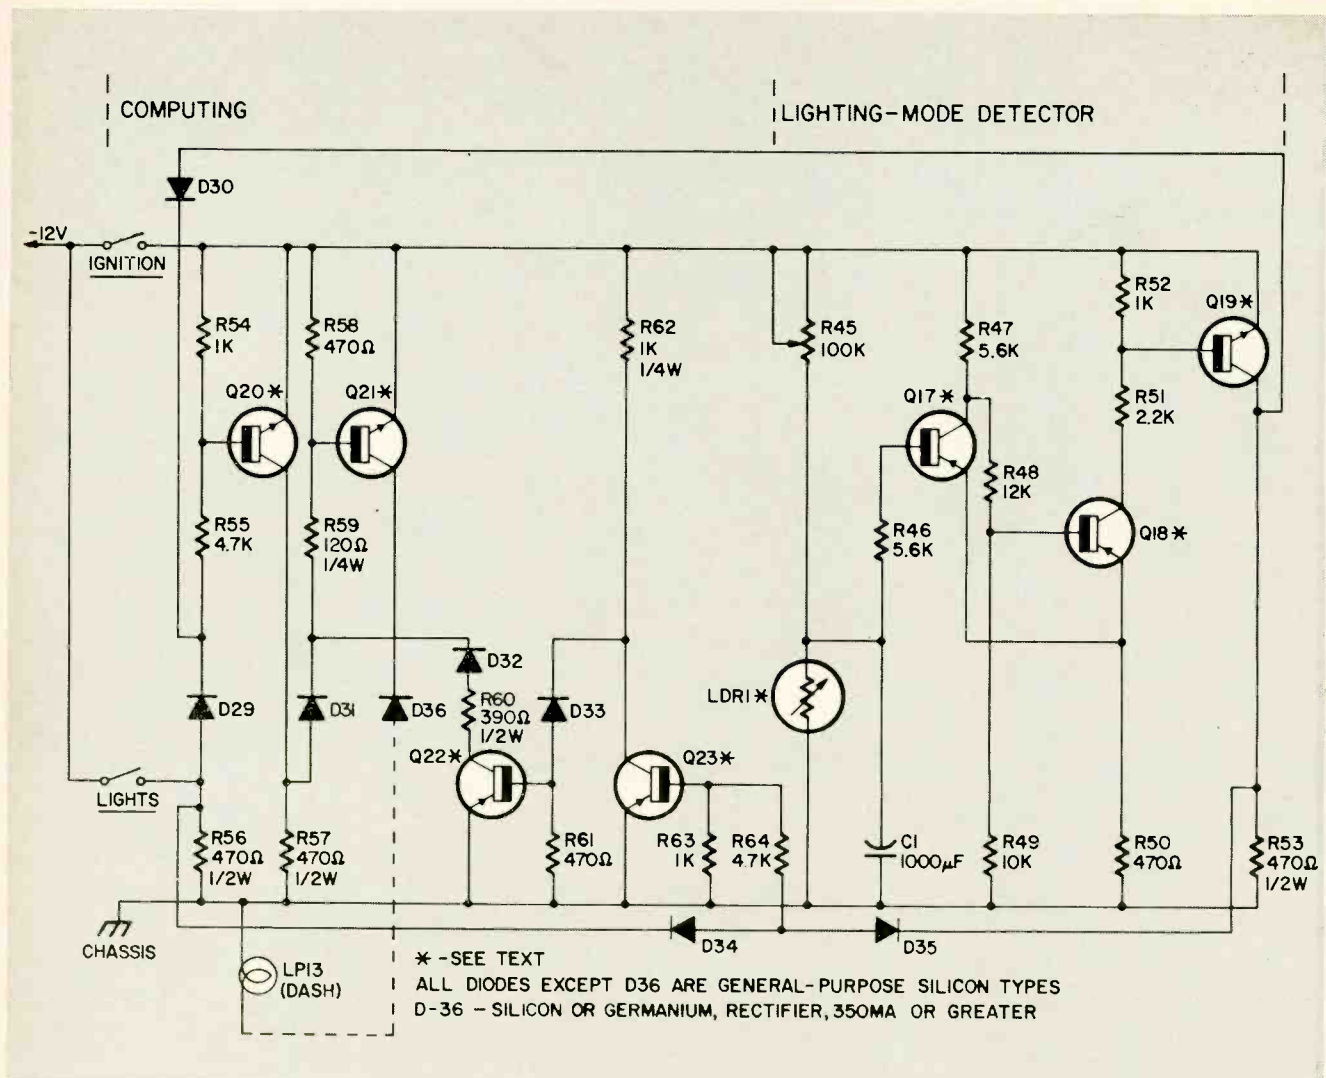

Fig. 4—This circuit decides whether your automobile lights should be on or off and warns you when corrective action is needed.
Pulse width can be varied from a few microseconds to 550 µsec. Pulse widths for this Schmitt trigger depend to some extent on the input trigger waveform. Therefore no data are given for width values on switch S2. Output of the Schmitt trigger is buffered by Q7, a fast switch. Fig. 4 illustrates the time-pulse relationships available within the Box.
- (1) Vehicle is being driven at night with main lights off.
- (2) Vehicle is being driven in daylight with main lights on.
- (3) Vehicle being driven at night with main lights on but one or more lamps burned out.
- (4) Vehicle being driven in daylight with main lights off, but with one or more brake or flasher lamps out.
- (5) Vehicle parked at night with main lights on, one or more lamps out.
The faults indicated in (1) and (2) are detected solely by the correlator, and the full circuit of this unit is shown in Fig 4. This circuit can be broken down into two main sections, one the lighting-mode detector and the other a simple computing section.